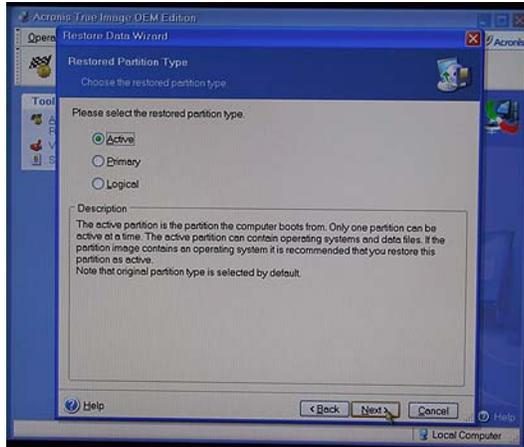

Figure 2-58
- 27) Select the **Unallocated (Disk 1)** item and then click the **Next** button to be presented with the **Restored Partition Type** page (Figure 2-58).